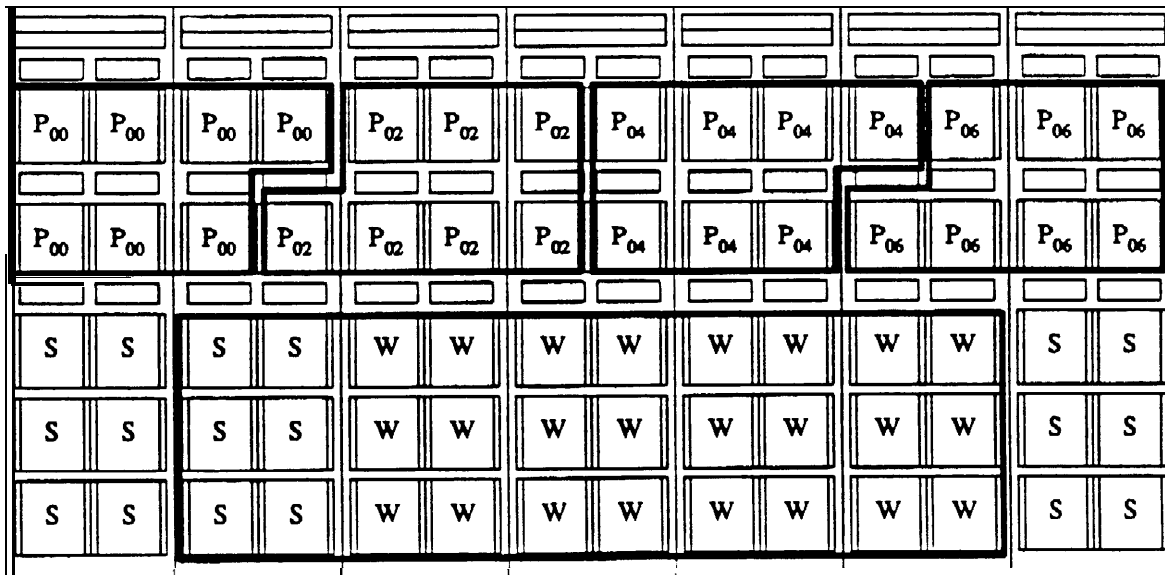
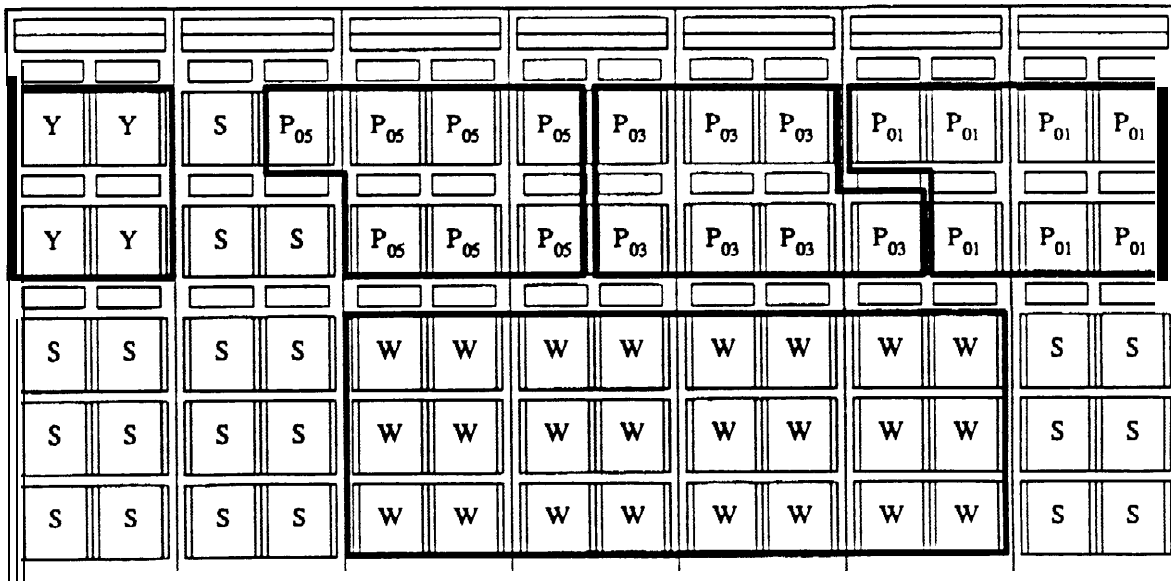

Figure 5-2. 7-Module System Mounted on Self-Supporting Type-1 Frame, Front
Figure 5-3. 7-Module System Mounted on Self-Supporting Type-1 Frame, Rear
- *Self-supporting frames.* Mounting the terminal blocks on self-supporting frames, which is preferable to wall mounting for this installation, requires five type-1 frames or seven type-2 frames. The type-1 frame arrangement is shown in figure 5-2, *7-Module System Mounted on Self-Supporting Type-1 Frame, Front*, and figure 5-3, *7-Module System Mounted on Self-Supporting Type-1 Frame, Rear*.